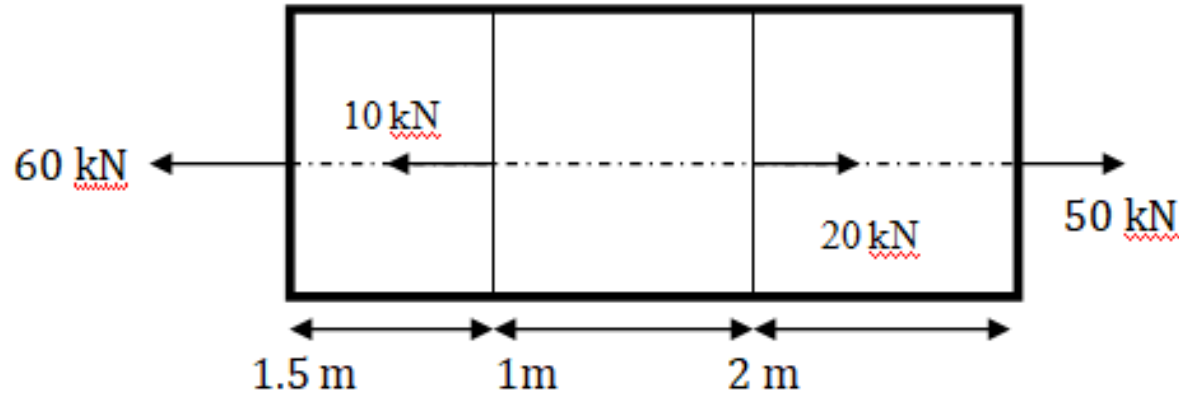

Fig.2
- (b) A bar of uniform diameter 25 mm is subjected to load as shown in the Fig.2. Determine the total elongation of the bar. Take $E = 210 \text{ GPa}$.